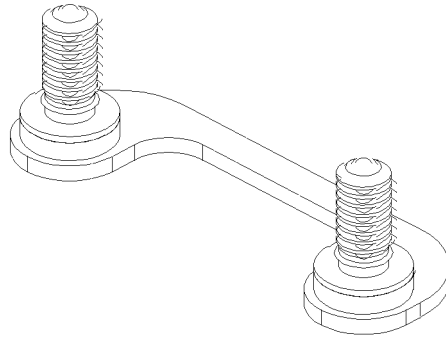

Fig. 14
- a) Refer to Fig. 14, install the Heatsink Support Base onto the motherboard, insert the two plastic nail to the hole in the Heatsink Support Base as following diagram: